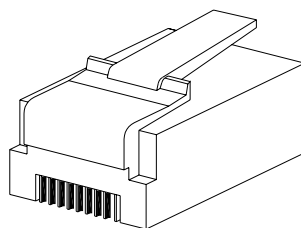

Figure 2-8 RJ45 connector
(1) Fabricate the Ethernet cable connector as describe in Chapter 5. The connector to BTS is RJ45 and the other one must match the connector of the transmission equipment or the Ethernet switch, as shown in Figure 2-8.